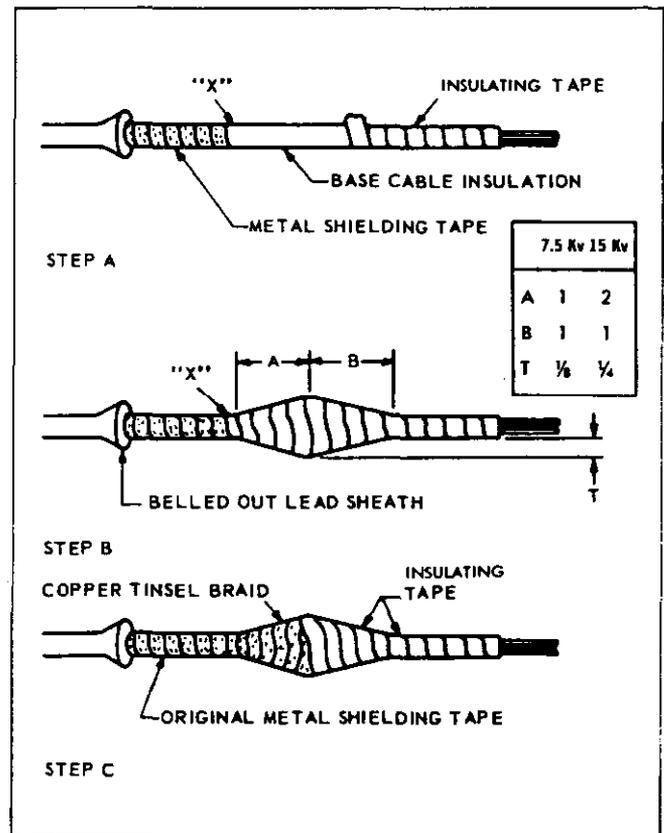

Fig. 16 - Typical pothead cable connections.
Determine the length of each conductor to extend from the position of the wiping sleeve or packing gland to the point of connection to the stud terminal. Establish location of stress relief cone on the cable so that it will be approximately in the center of the pothead body. Remove shielding and conducting tapes down to bottom of stress cone (point "X," Fig. 16). Bare the end of the conductor and solder to stud terminal.
5. Remove lead sheath from the cable to point marked, being careful not to damage insulation. Bell out lead sheath as shown in Figure 16. For braided cables remove braid down to point "X."
8. Solder cables solidly into the studs. (For voltages above 7,500, make stress cones on cables as shown in Fig. 16.)